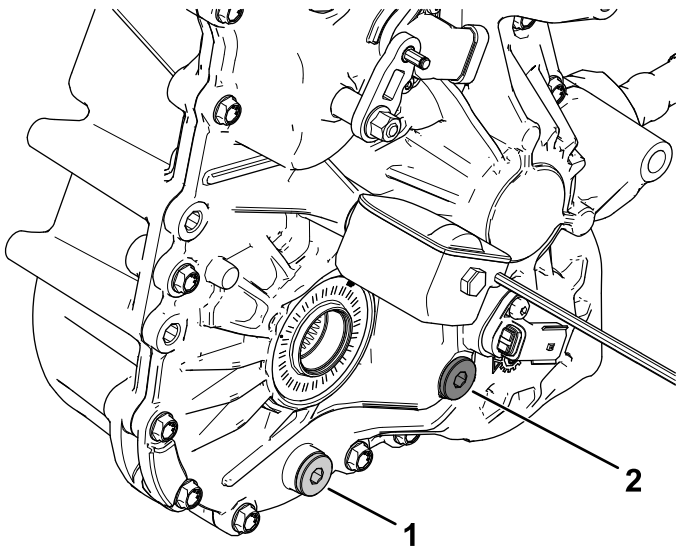

Figure 117
4. Remove the fill plug on the transaxle (Figure 117).
5. If the fluid level is low, remove the fill plug and add the specified fluid until it runs out of the hole (Figure 117).
1. Align a drain pan under the drain plug (Figure 117).
2. Remove the fill plug (Figure 117).
3. Remove the drain plug, and allow the fluid to drain completely (Figure 117).